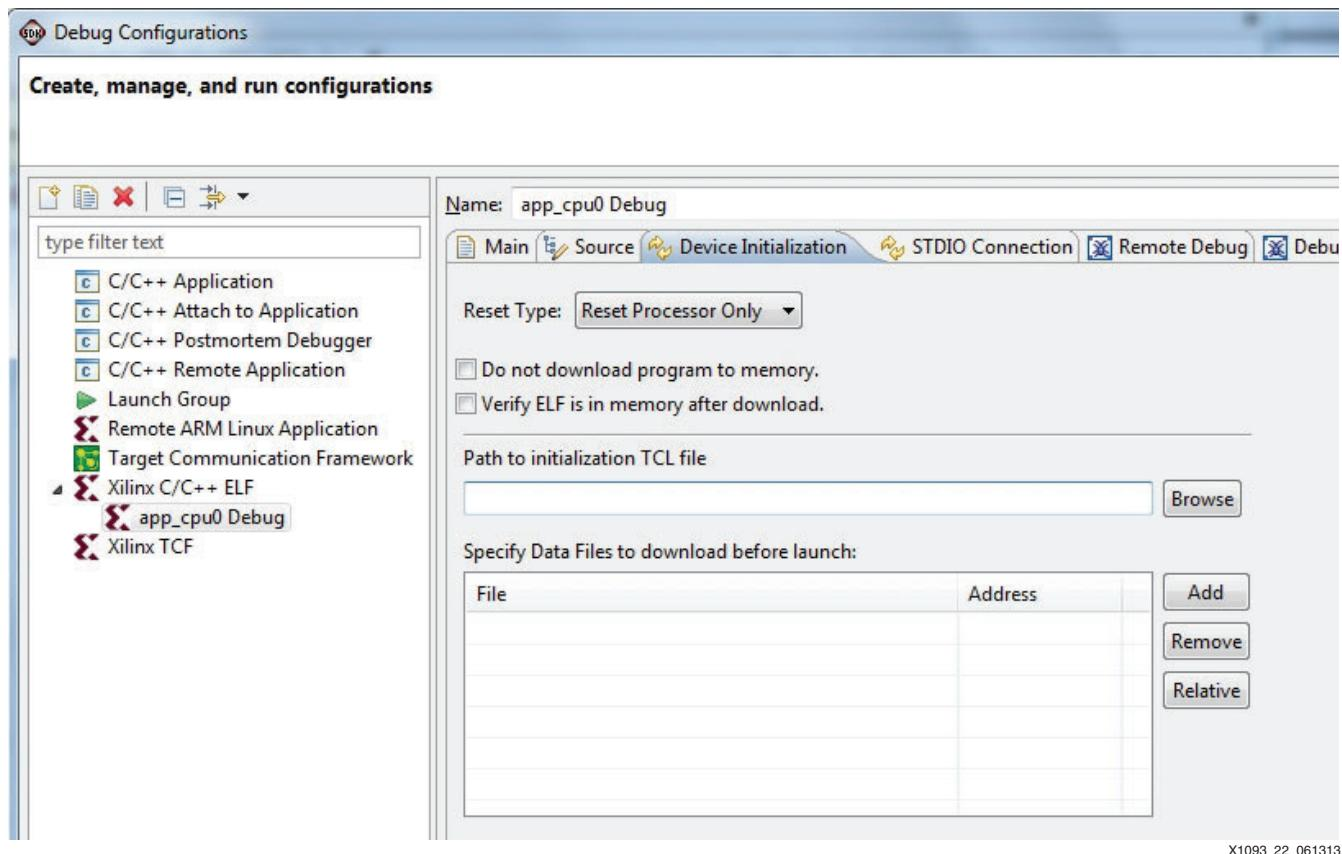

Figure 22: CPU0 Debug Initialization
4. Clear the **Path to initialization TCL file** field as shown in Figure 22. (Initialization of the PS has already been done by the FSBL.)